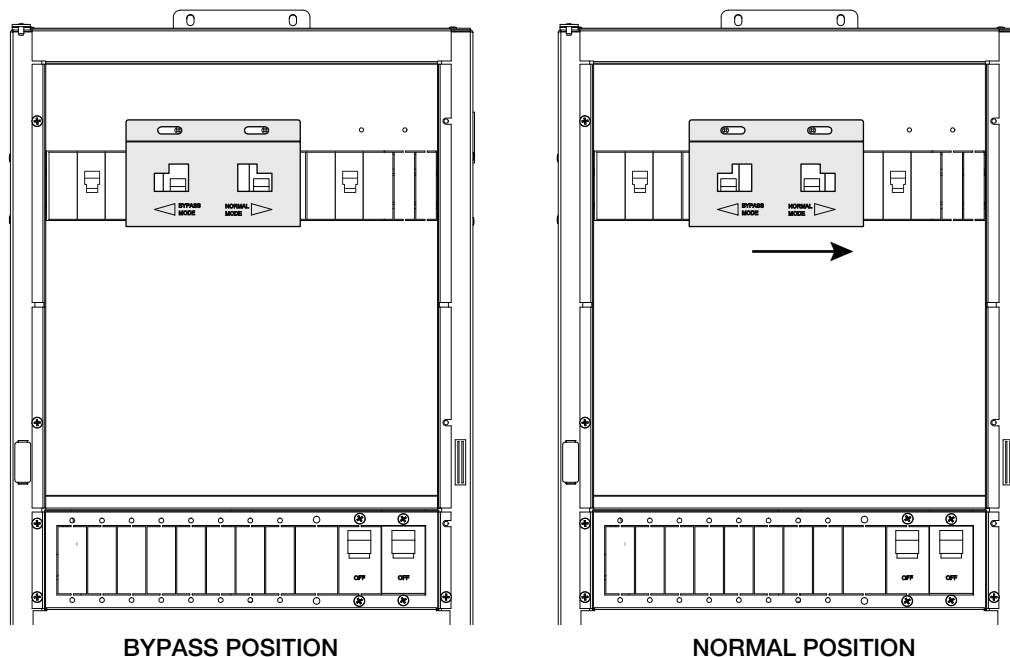

Figure 3-35 Installing the custom designed three-phase bypass interlock plate
2. Place the bypass interlock plate over the breakers, as shown in Figure 3-35, and secure it in place with the hardware provided.
3. To set it in Normal position, slide the bypass plate to the right, as shown in Figure 3-35.